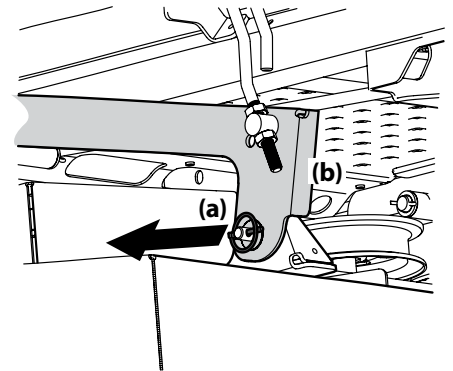

Figure 4-14
- Locate the LH and RH deck release pins (a) on each side of the deck. Pull the deck release pins (a) outward and release the deck from the LH and RH deck lift arms (b). See Figure 4-14.
5. Pull the deck release pins outward and maneuver the deck as necessary to align the holes in the deck lift arms with the pins. Refer to Figure 4-14.